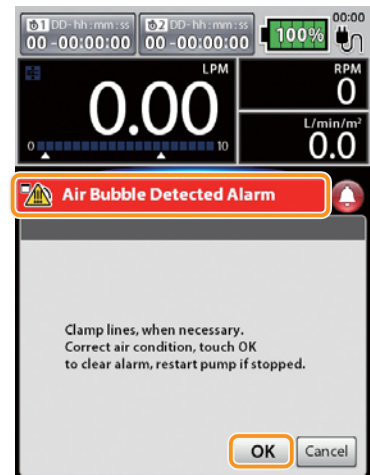

Figure 2-6
4. Tap [Air Bubble Detected Alarm] on the message area, and after confirming the displayed message, tap [OK]. (Figure 2-6)